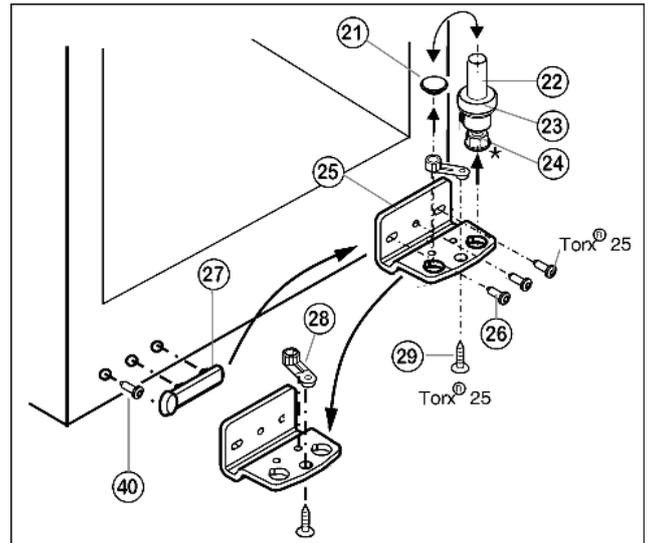

Fig. 5
- ▶ Lift out the bearing pin Fig. 5 (22) together with washer Fig. 5 (23) and adjustable-height foot* Fig. 5 (24).
- ▶ Lift off the stopper Fig. 5 (21).
- ▶ Unscrew Fig. 5 (26) the turn hinge Fig. 5 (25).
- ▶ Unscrew Fig. 5 (29) the bearing element Fig. 5 (28), transfer it to the opposite location hole of the turn hinge and screw it firmly into place.
- ▶ Carefully lift off the cover on the handle side Fig. 5 (27), undo the screw Fig. 5 (40) and transfer both to the opposite side.
- ▶ Screw the turn hinge Fig. 5 (25) firmly into place on the new hinge side, possibly using a cordless screwdriver (**with 4 Nm**).
- ▶ Re-insert the stopper Fig. 5 (21) into the other hole.
- ▶ Re-insert the bearing pin Fig. 5 (22) together with the washer and adjustable-height foot*. In so doing, pay attention that the locating lug points backwards
- ▶ Lift the stopper (33) out of the door bearing bush and transfer it.
- ▶ Dismantle the door handle (32), stoppers (33) and pressure plates* (34) and transfer to the opposite side.
- ▶ Place the door from above onto the lower bearing pin Fig. 5 (22).
- ▶ Insert the upper turn hinge (12) in the door on the new hinge side.
- ▶ Screw the upper turn hinge (12) **firmly** into place (**with 4 Nm**)(2x Torx® 25) (13). Possibly make preliminary holes with a bradawl or use a cordless screwdriver.
- ▶ Snap the cover (10) and cover (11) into place at the opposite side.
- ▶ Align the door to the appliance housing by way of the two oblong holes in the bottom turn hinge Fig. 5 (25). To do so, unscrew the middle screw.